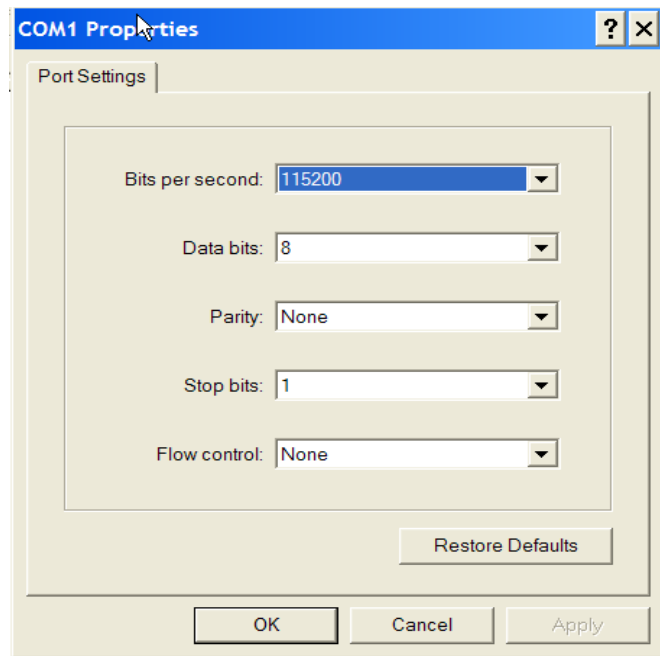

Figure 6-4 – COM Properties window
- Hyper Terminal should now be displaying the COM Properties window (Figure 6-4) which contains the configurable port settings. Set the fields to the following: